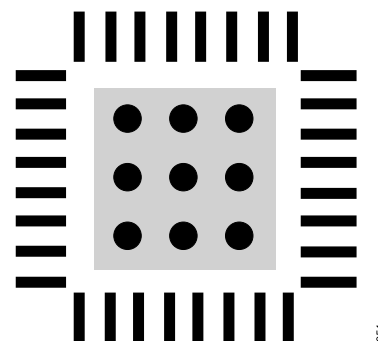

Figure 65. Exposed Pad Layout Example, Top View
- ▶ Vias should be placed to connect all layers of copper, allowing for efficient heat and energy conductivity. For an example, see Figure 65, which has nine vias arranged in a 3 inch \times 3 inch grid in the pad area.